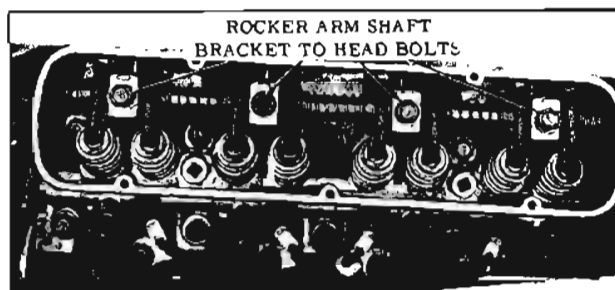

Fig. 8-107 Rocker Arm Assembly Attachment
7. Remove 4 rocker arm shaft bracket to head bolts. (Fig. 8-107)